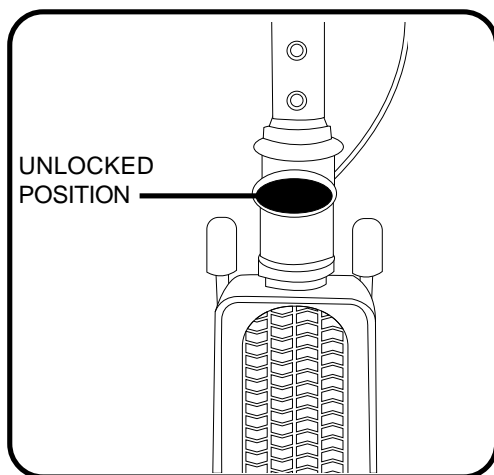
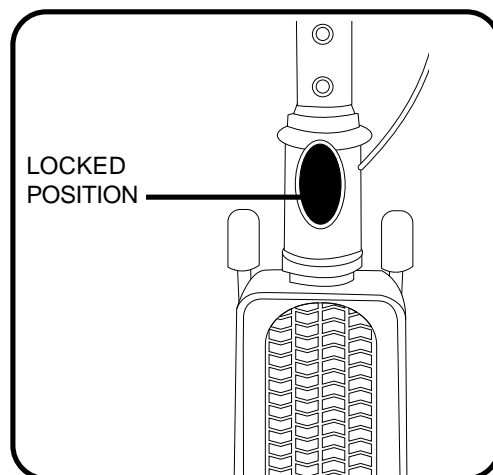

Figure 12. Tiller Lock Knob (Unlocked)
Figure 12A. Tiller Lock Knob (Locked)
1. From the unlocked position (see figure 12), lock the front wheel by pushing the tiller lock knob in and turning it clockwise 90°. See figure 12A.
8. Unlock the front wheel by turning the tiller lock knob 90° anticlockwise. See figure 12.